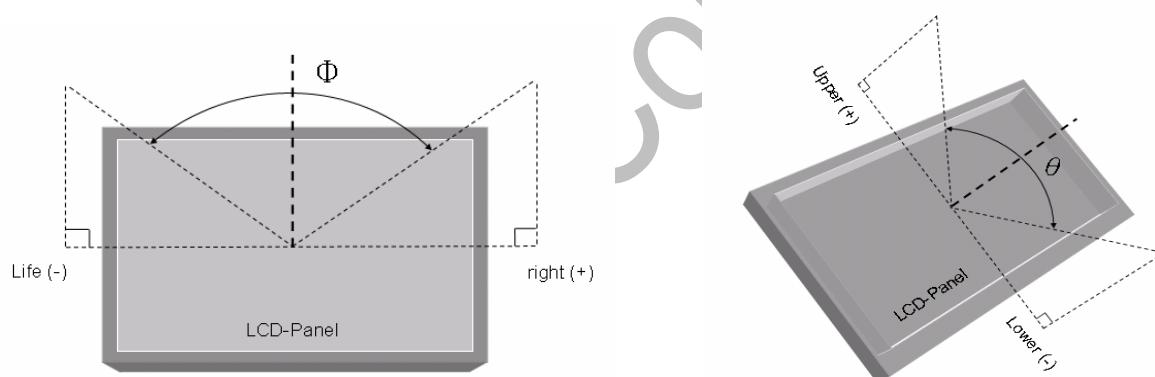

Fig8-2 Definition of Viewing Angle
*4) Definition of Viewing Angle(θ, ψ),refer to Fig8-2 as below :